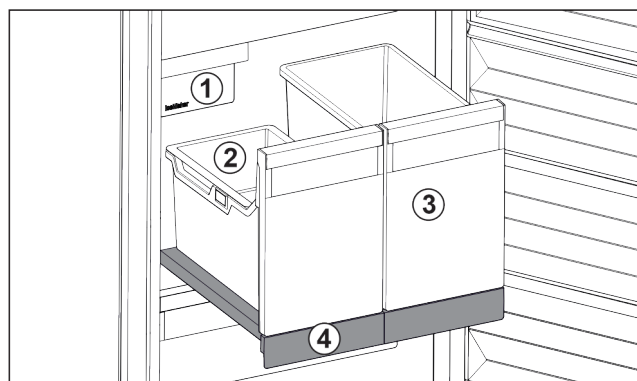

Fig. 138 Pull-out board with IceTower
(2) Hang-on tray for ice cubes
(4) Pull-out board
There are two high (IceTower) containers on the pull-out board. Ice cubes from the IceMaker are collected and stored in the Fig. 138 (2) container. The container Fig. 138 (3) is suitable for storing tall foodstuffs or beverages such as pizzas or alcoholic drinks.